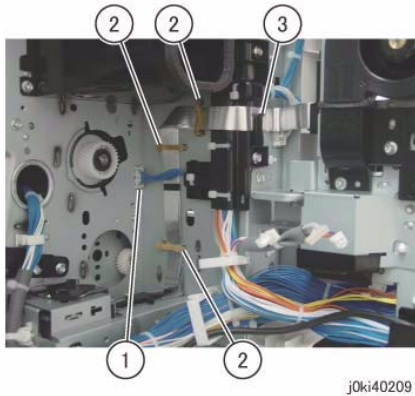

Figure 6 Release the LPH Cable
12. Release the LPH Cable. (Figure 6)